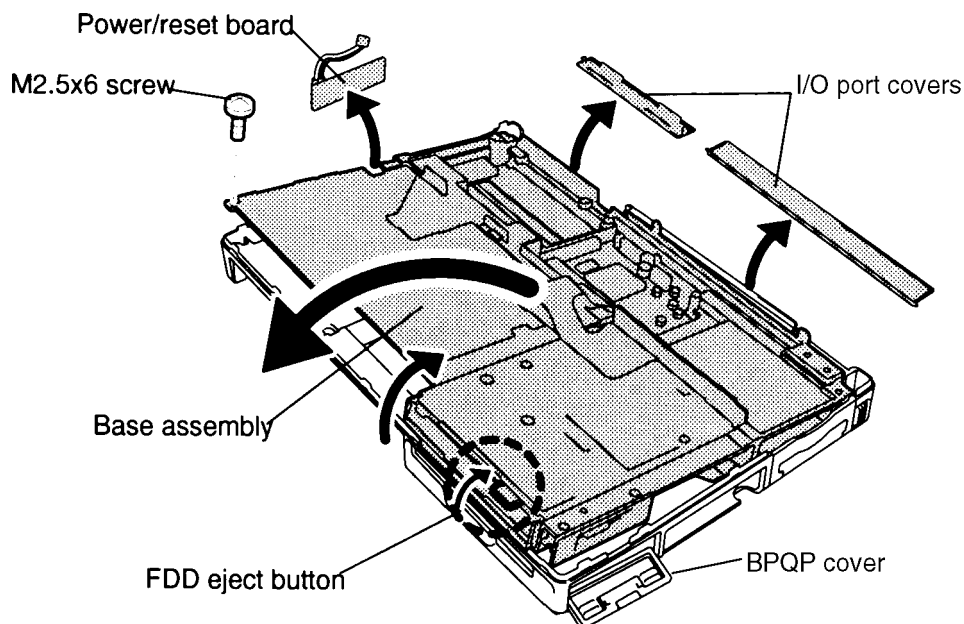

Figure 4-30 Removing the base assembly
- Remove the back left **I/O port cover** and open the right **I/O port cover** (Figure 4-30).
- Remove the **M2.5x6 screw** at the left front corner securing the base assembly to the bottom cover (Figure 4-30).
- Press the **FDD eject button** so that it clears the bottom cover and lift up the front of the base assembly (Figure 4-30).
- After lifting up the front of the **base assembly**, pry the I/O port frame slightly away from the base assembly to separate the base assembly from the bottom cover, then lift the assembly out of the cover. (Figure 4-30).
9. Lift the **power/reset board** out of the bottom cover (Figure 4-30).
3. Fit the I/O port connector side of the **base assembly** into the bottom cover. Make sure the **power/reset cable** extends through the **notch** on the base assembly and lay the base assembly into the bottom cover. Press the **FDD eject button** so the base assembly can clear the bottom cover. When seating the base assembly, make sure the **BPQP cover** is pulled outward so as not to trap it inside the bottom cover (Figure 4-30).
4. Secure the base assembly's front-left corner with **one M2.5x6 screw** (Figure 4-30).
5. Install the left **I/O port cover** and close the right **I/O port cover** (Figure 4-30).